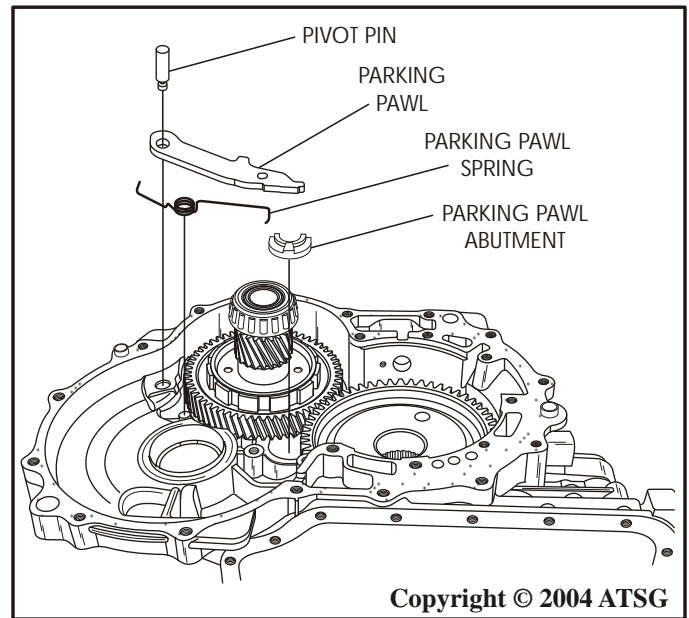

Figure 133
45. Install parking pawl spring into the case and over the case casting dowel (See Figure 133).
46. Install the parking pawl abutment, as shown in Figure 133.
47. Install the parking pawl into case and install the pivot pin, as shown in Figure 133.
48. Install the park pawl spring into hole in parking pawl using a pair of pliers (See Figure 133).